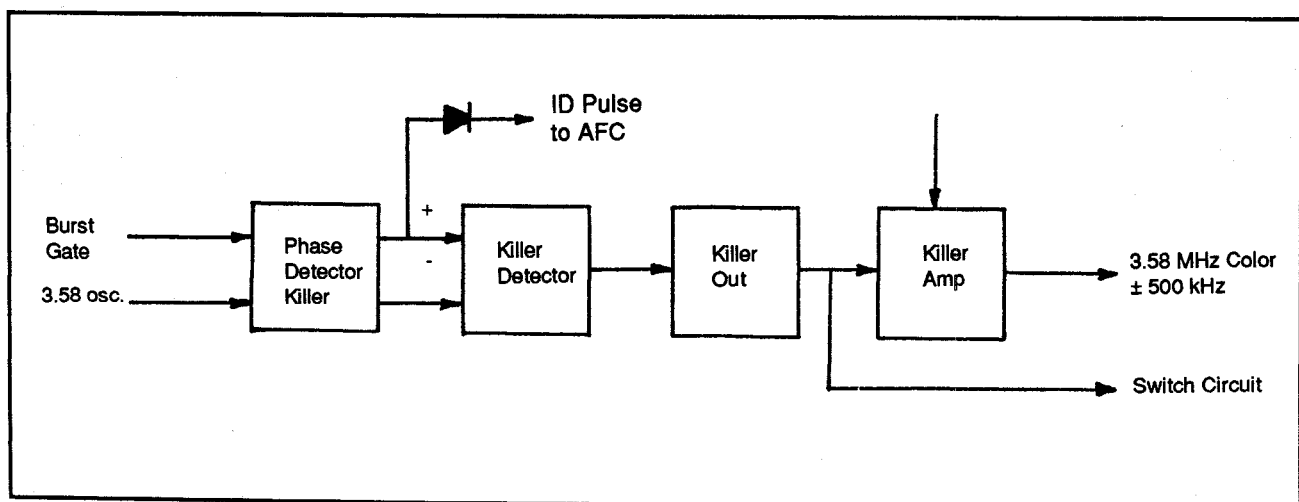

Figure 2: Typical color killer circuit
**Color Killer Circuit** Figure 2 shows the color killer circuit. It is designed to prevent the passing of a color signal when the signal is black and white only. It also provides an ID pulse, which is used in the AFC circuit to prevent a  $180^\circ$  out-of-phase lockup.